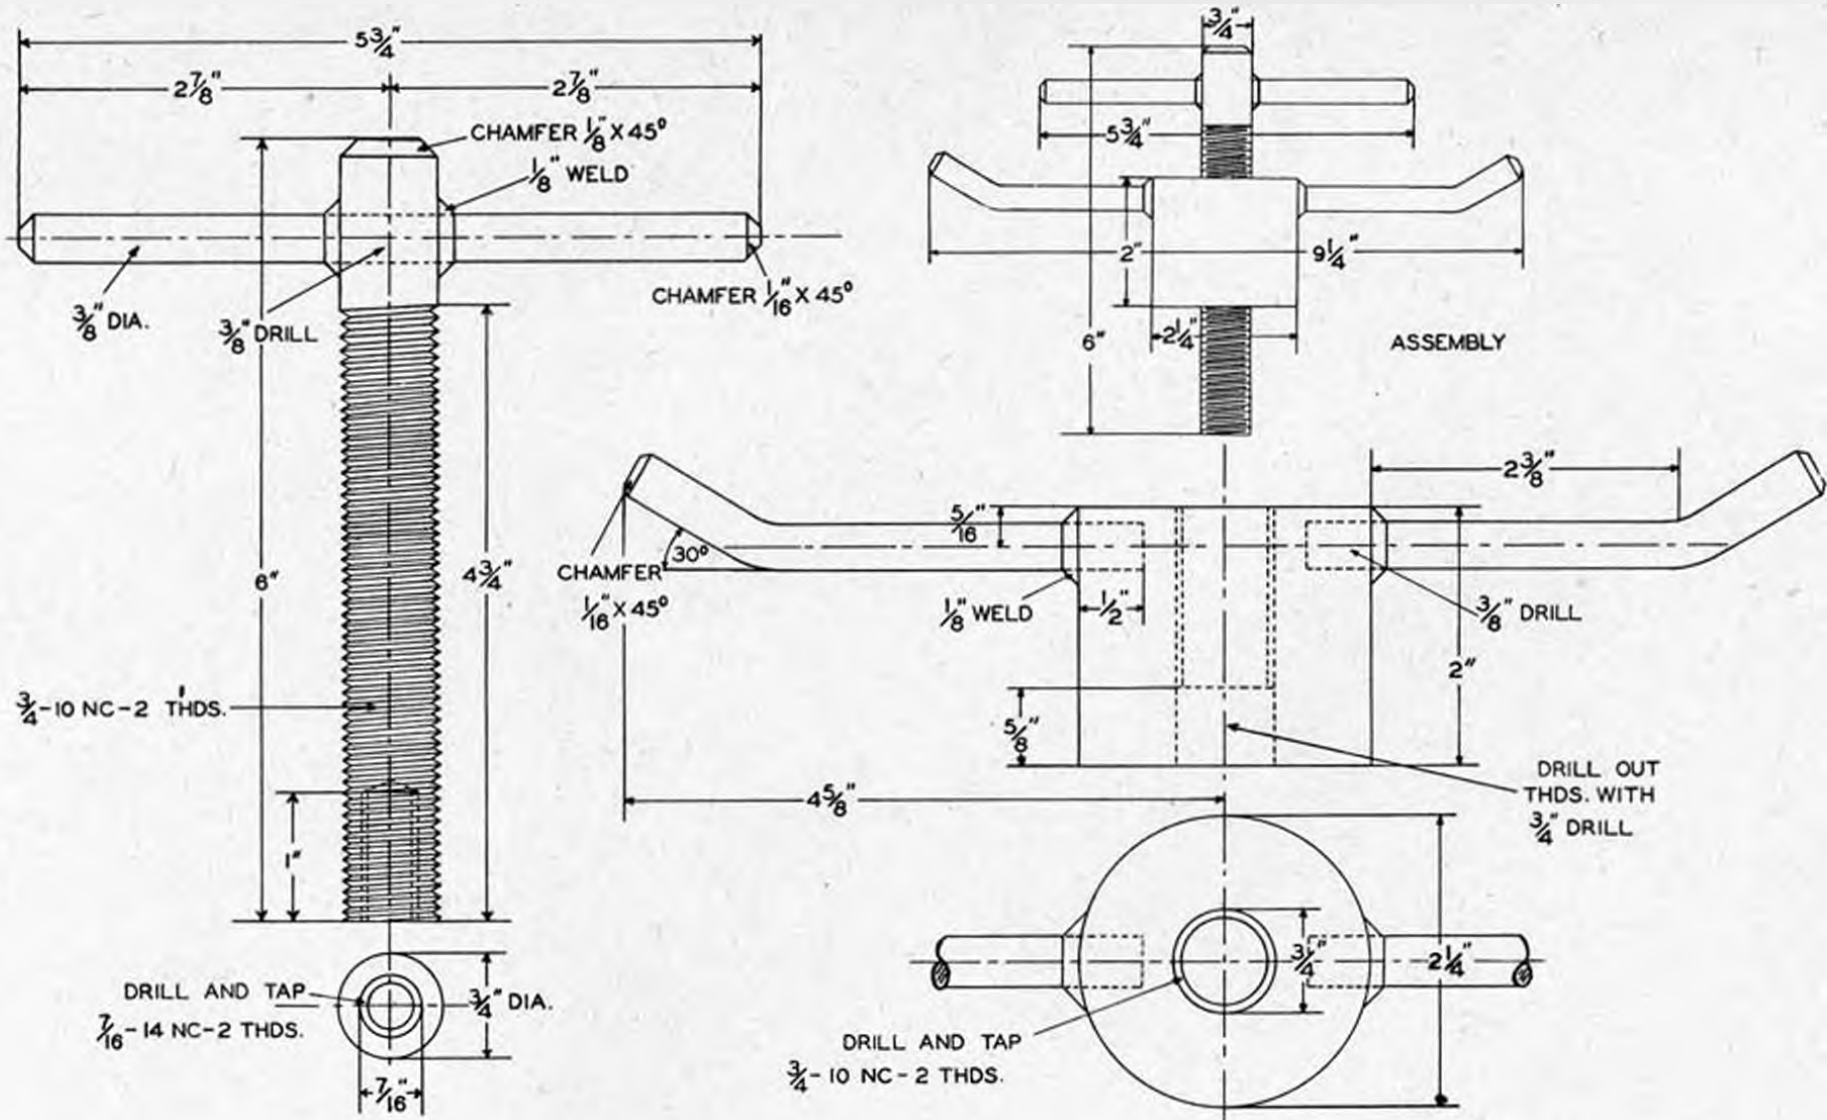

Fig. 25c - Mine Mk 25-2, Extender Retracting Tool
3. Screw the extender retracting tool (Fig. 25c) onto the extender stem.